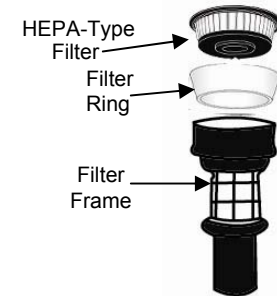

Fig. 9
3. To separate the filter assembly, hold the bottom of the filter frame and pull the HEPA-Type filter out. (Fig. 9)